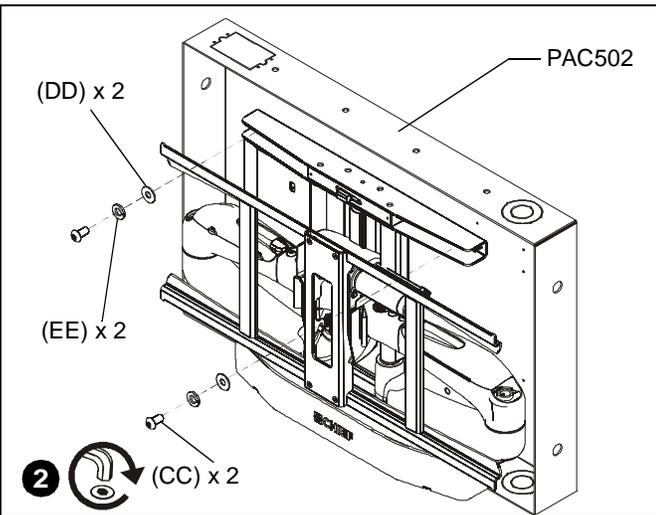

Figure 17
2. Using two 5/16-18 x 5/8" button head cap screws (CC), two 5/16" split lock washers (EE), and two 1/4" flat washers (DD) loosely secure top of PXR in PAC502. Secure screws at least three turns into PAC502. (See Figure 17)